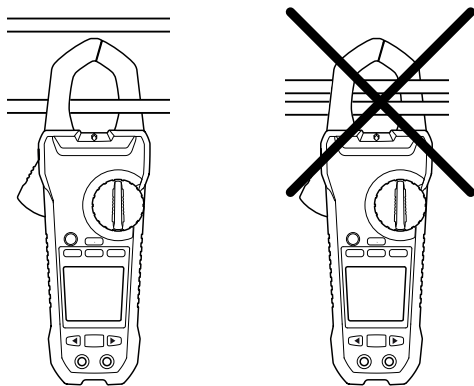

Figure 5.1 Correct and incorrect setup
When measuring current using the clamp jaws, only one conductor should be enclosed by the jaws—refer to Figure 5.1.
5. Press the trigger to open the clamp jaws. Fully enclose one conductor—refer to Figure 5.1. For optimum results, center the conductor in the jaws.
- Press the trigger to open the clamp jaws. Fully enclose one conductor—refer to Figure 5.1. For optimum results, center the conductor in the jaws.